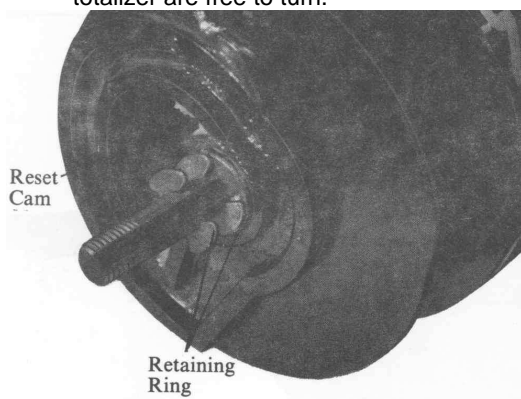

Figure 13. Reset Cam Removal
4. Wheel Group Parts Replacement. See Figures 13, 14, 15 and 16. The reset cam, individual wheels, locking discs and eccentrics may be replaced as required.